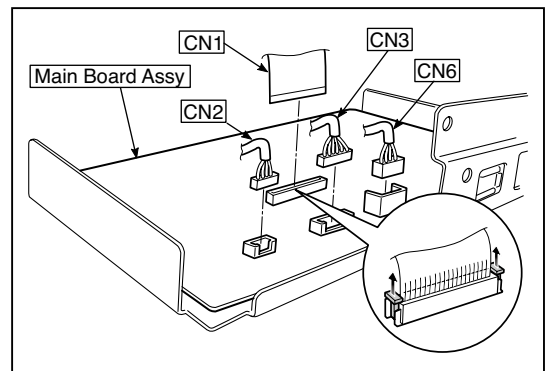

Fig.3
3. Disconnect the connector (CN1,2,3,6) connected to the Main Board Assy shown in the figure 3. (See Figs. 3 and 4,5.)